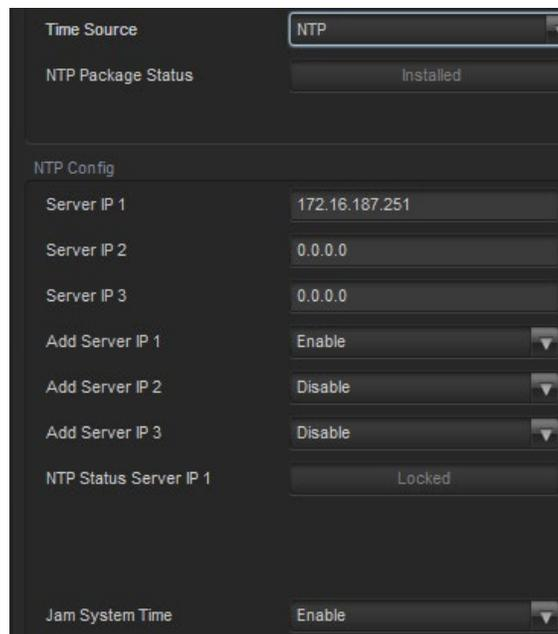

Figure 5-7 - VistaLINK PRO NTP Settings
- **Time Source:** Whether the user want Local or NTP (see Figure 5-7 for NTP menu)